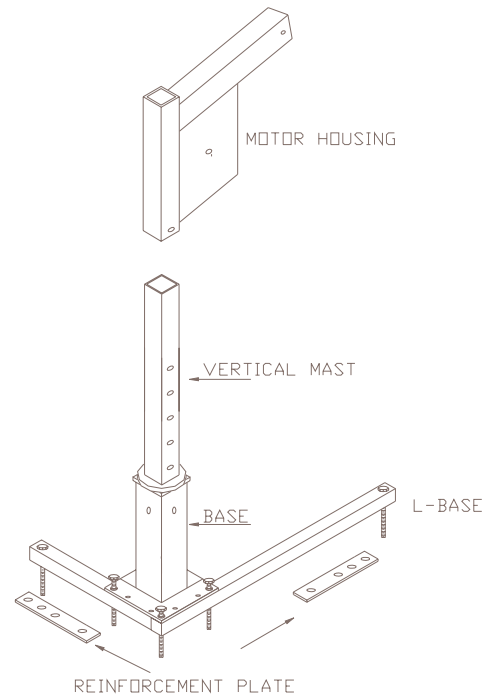

FIGURE 5.
5. Slide the motor housing onto the vertical mast. See figure 5.